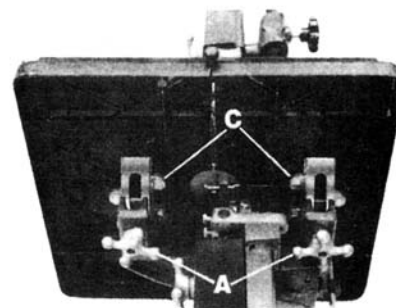

FIGURE 8
4. **Adjusting table:** The table as it sits should slide from side to side, if it does not, the bolts found on either side of the half round bracket (C-Fig.8) should be loosened. Adjust the table so the blade sits in the middle of the slot in the table insert. Retighten the six bolts.